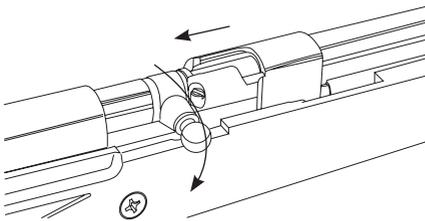

Fig. 11
- Pull the bolt handle backwards and then rotate it counter clockwise until it sits in its locked position. (Fig. 11)